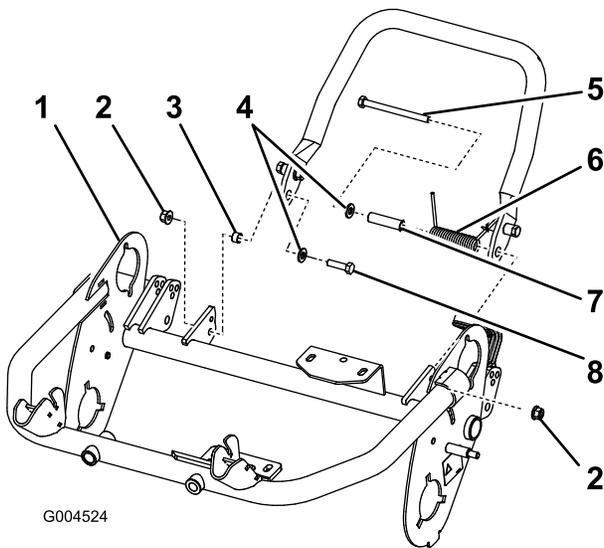

Figure 9
frame with the bolt and washer, the small spacer, and locknut (M8-1.25) (Figure 9). Ensure the bolt is installed from the inside of the frame as shown in Figure 9.
Important: When installing the spring, place one end of the spring under the rear frame (Figure 9).
5. Install the left side of the kickstand to the frame with the bolt and washer, the large spacer and spring, and locknut (M8-1.25) (Figure 9). Ensure the bolt is installed from the inside of the frame as shown in Figure 9.